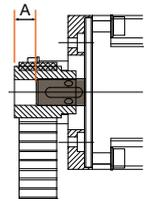

Figure 4
- ◆ Measure and note depth "A" from toothed pulley to motor / gearbox shaft before dismounting the toothed pulley (see Figure 4).